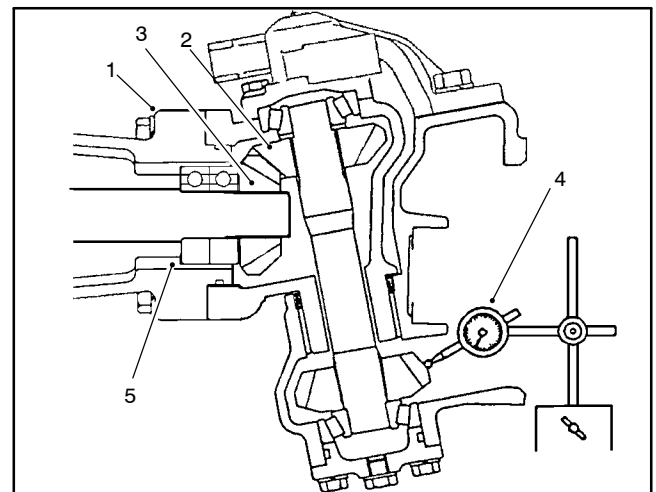

Figure 19
7. Temporarily install the bevel gear case/axle case assembly on the axle support. Position a dial indicator at the teeth center. Prevent the axle from turning and measure the upper bevel gear to differential shaft gear backlash (Fig. 19).